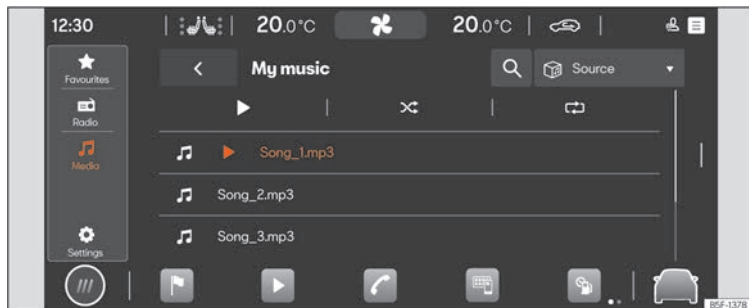

Fig.155 Schematic representation: Multimedia view
- Press **HOME** > ► > > ► **Fig. 155**.